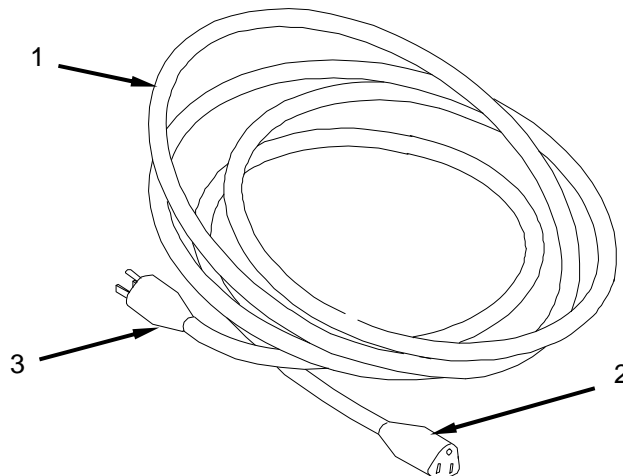

Figure 1. Inspect 110VAC Extension Cable.
1. Inspect the insulated exterior surface of the extension cable (Figure 1, Item 1) for any cuts, tears and sign of deteriorating.